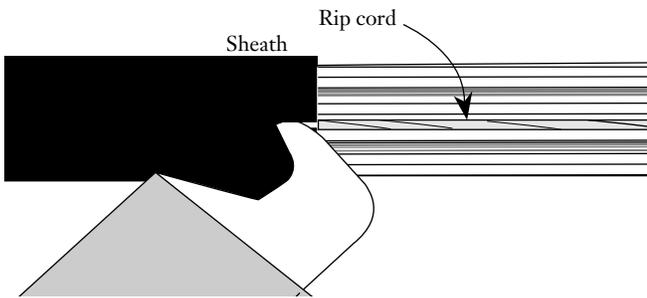

Figure 8
5.8 Locate the two rip cords. Using the hook blade, cut starting notches in the cable sheath (Figure 8).